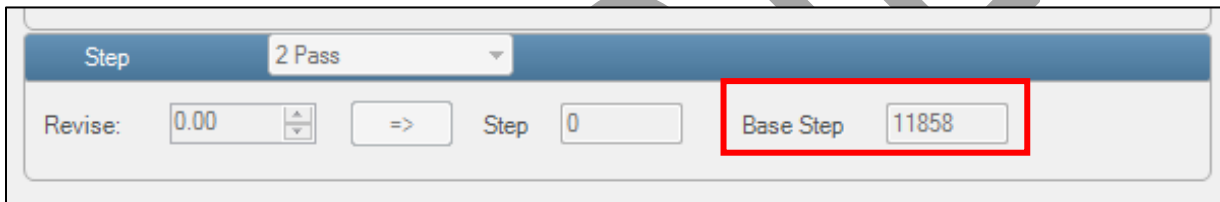

Fig 71: The Step Calibration Parameters
Step 1: Select the desired pass from the list and click on the **Print** button (Refer to Fig 71).
Step 2: Feed the correction value in the **Revise** field (the correction value up to two decimal places) (Refer to Fig 71).
Step 3: Click on the => icon (Refer to Fig 71) on the Step Calibration window. The correction value result will be reflected in the **Step** field (Refer to Fig 71). The same step value will also be displayed in the **Steps** field on the **Quick Access Toolbar**.